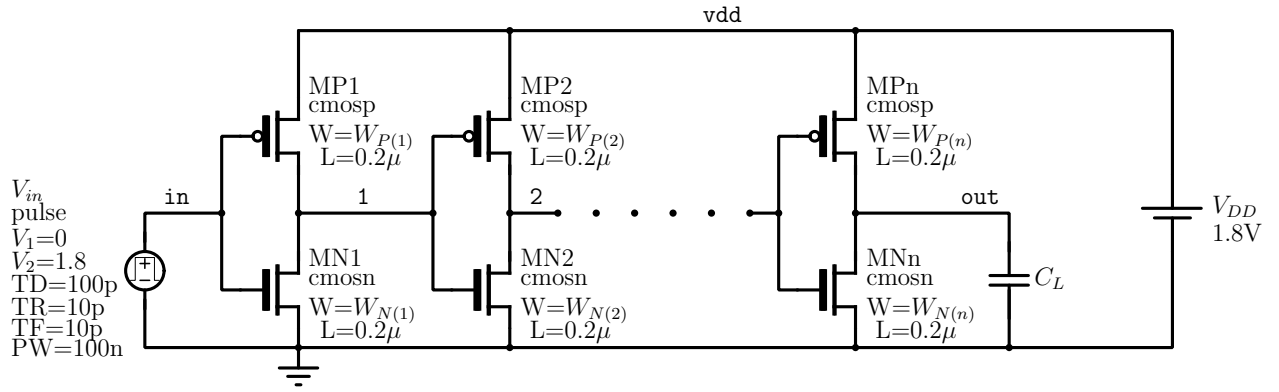

Figure 4.1. Electrical Schematic for Procedure (a).
- Calculate  $n$ ,  $m$  and  $\mathcal{L}$ , using (1), (2), (3) and record the values in Table 5.1.
- Calculate channel width  $W$  of each device in the staged buffer using (4) and (5). Record the values in Table 5.2
- Calculate theoretical latency of a single inverter using (6), (7) and (8). Fill in the results into Table 5.3.
- Write the netlist of the circuit given in Figure 4.1 to inspect the transient response of the staged buffer circuit designed in the previous step.